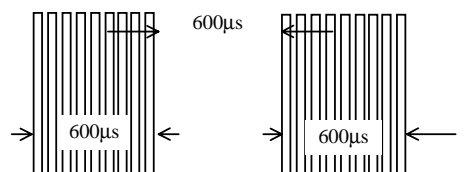

Fig 1. Burst Wave
- (1) Measuring place .....Indoor without extreme reflection of light.
- (2) Ambient light source... Detecting surface illumination shall be 200±50Lux under ordinary hite fluorecence lamp of no high frequency lighting.
- (3) Standard transmitter ... Burst wave indicated in Fig 1. of standard transmitter shall be arranged to 50mVp-p under the measuring circuit specified in Fig 2.